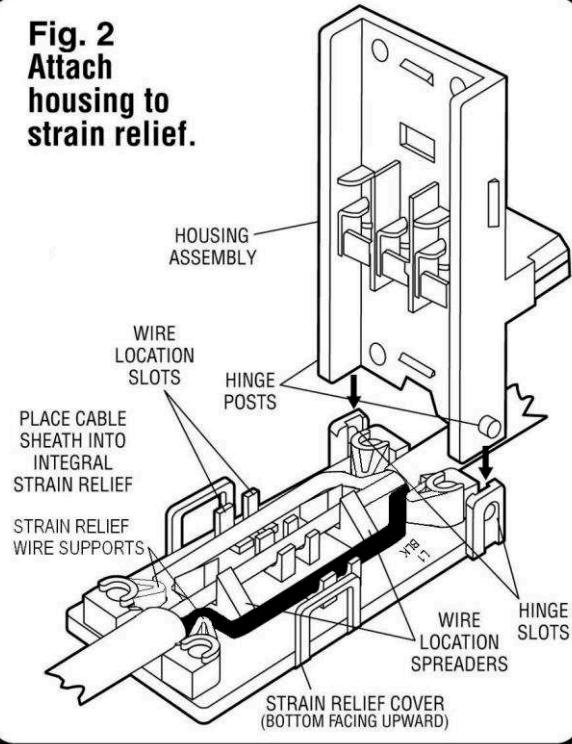

FIG. 3.1 Alternately, clamp connector with tongue & groove pliers, squeezing squarely and firmly approximately as shown.
5. Close the strain relief cover and housing by hand. Place the connector assembly into Molex tool as shown in **Figure 3**. Squeeze the tool until the connector bottoms out and the locking latches engage on both sides. OR alternately, squeeze the top and bottom closed with tongue and groove pliers as shown in **Figure 3.1**. Pliers must be a minimum of 10" long. Squeeze firmly on both sides, squarely across the connector with the bottom jaw of the pliers butted up against the T-extension in the housing to ensure wires seat completely into slots.